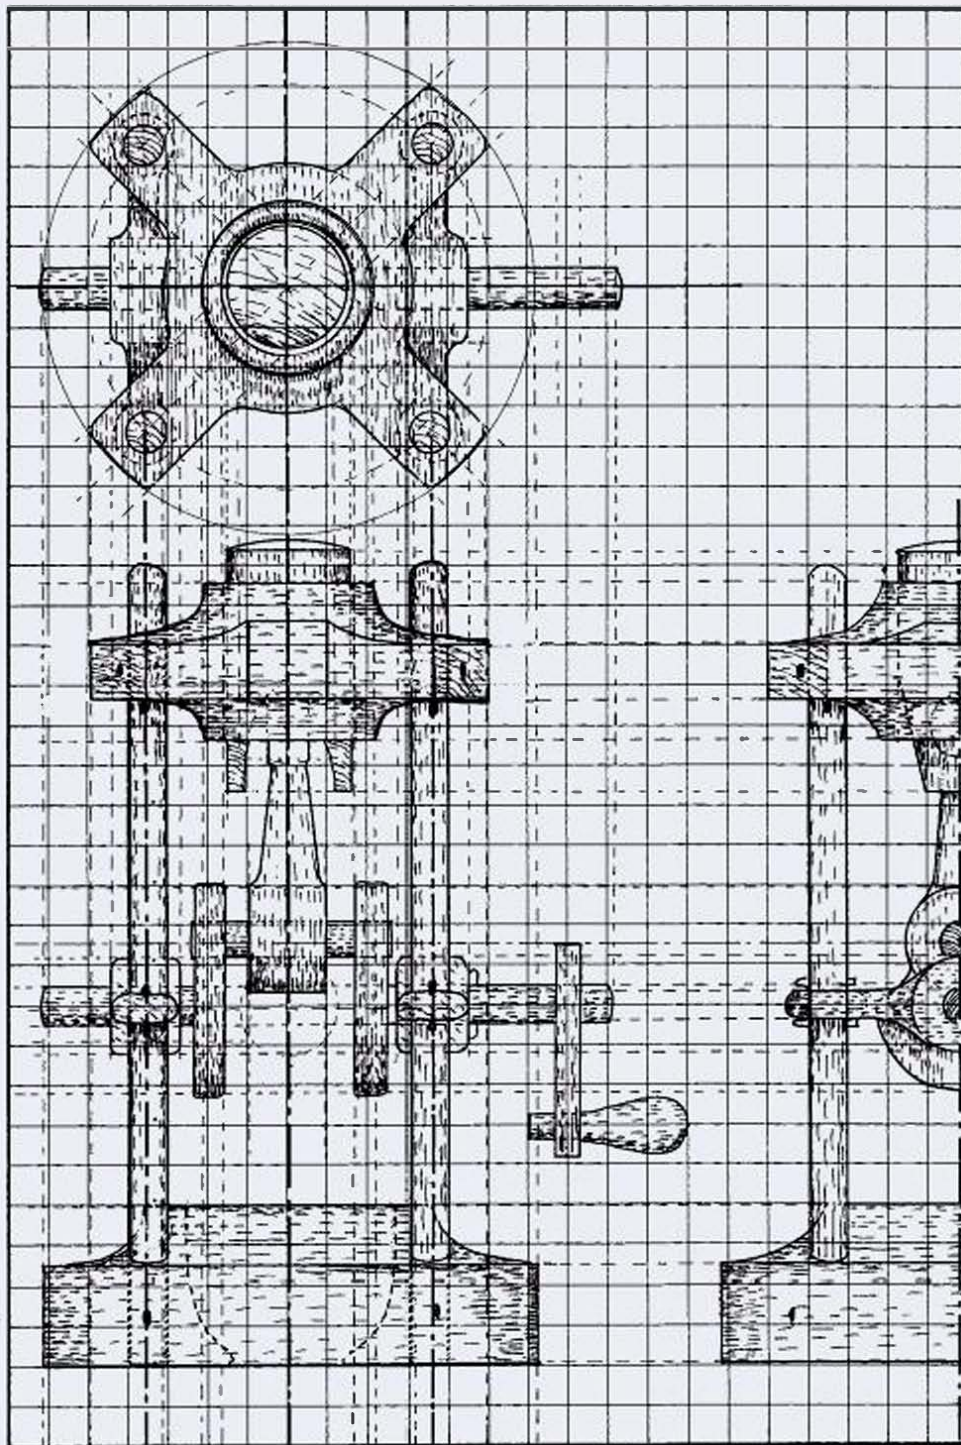
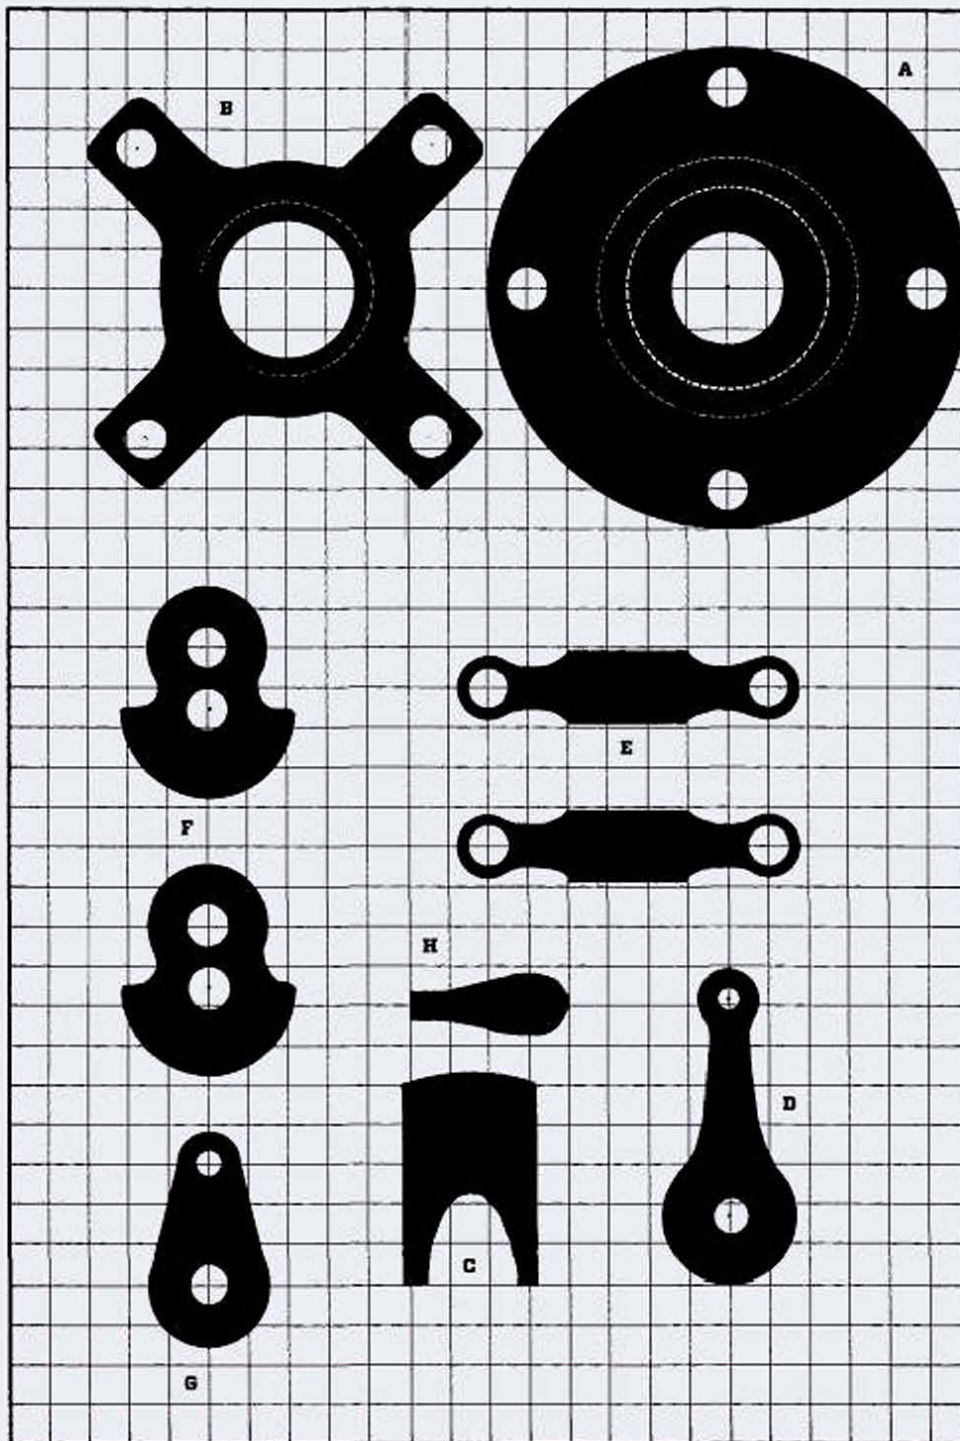

FIGURE 4-1
FIGURE 4-2
Have a look at the working drawing (Fig 4-1) and the templates (Fig 4-2), and see that at a grid scale of two squares
- 1 Have a good, long look at the working drawing (Fig 4-1) and templates (Fig 4-2), and see that the quatrefoil component at the top of the engine—we call it the engine or piston case—is both turned on the lathe and worked with the saw and drill. Note also the shape of the base.
- 8 Having first rubbed down the turning to a smooth finish, take it off the lathe—off the faceplate—and set to work on the turned face of the wood, drawing in all the lines that make up the quatrefoil design. Pencil label the turned face "bottom," fix the position of the four postholes on the guideline circle—at 90° intervals—and establish the shape of the cross-arms. Make the arms about 1¼" wide and all the corners and angles nicely rounded (Figs 4-1 and 4-2 top).
15 Finally, remount the base on the lathe and drill, and turn the profile in much the same way as already described. Check your turning against the working drawing (Fig 4-1 bottom).
1 When you have studied the working drawing (Fig 4-1) so you know what you are doing, take the 1"-thick piece of mahogany and use the pencil, ruler, square and compasses to mark the design as seen in side view.
1 Have a look at the working drawing (Fig 4-1), templates (Fig 4-2) and the various photographs, and see that the crank is achieved by having two identical plates and offset dowels.